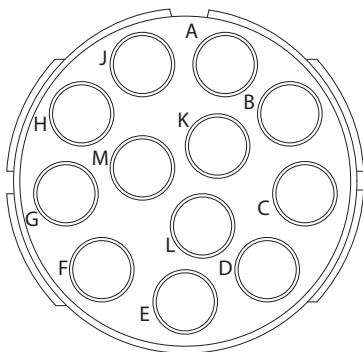

FIG. 34: Pin Terminals
6. Replace the heater (PH), sensor (SE), or over temperature device (OT).
7. Install the pin onto the heater wire and sensor wire with the special crimping tool shown in FIG. 36. Install the pins into the relative terminals. Refer to FIG. 34 and TABLE 4:.